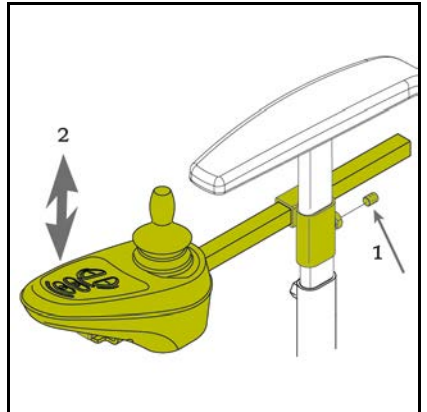

Figure 4.14
**Controller height setting (fig 4.14).**